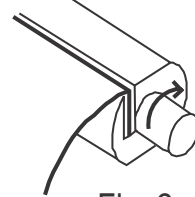

Fig. 2
- 6) Fold end of paper approx. 1/4" and insert into take-up spool as shown in fig. 2. Wind the paper onto the spool a couple of times then place take-up spool back onto winding mechanism